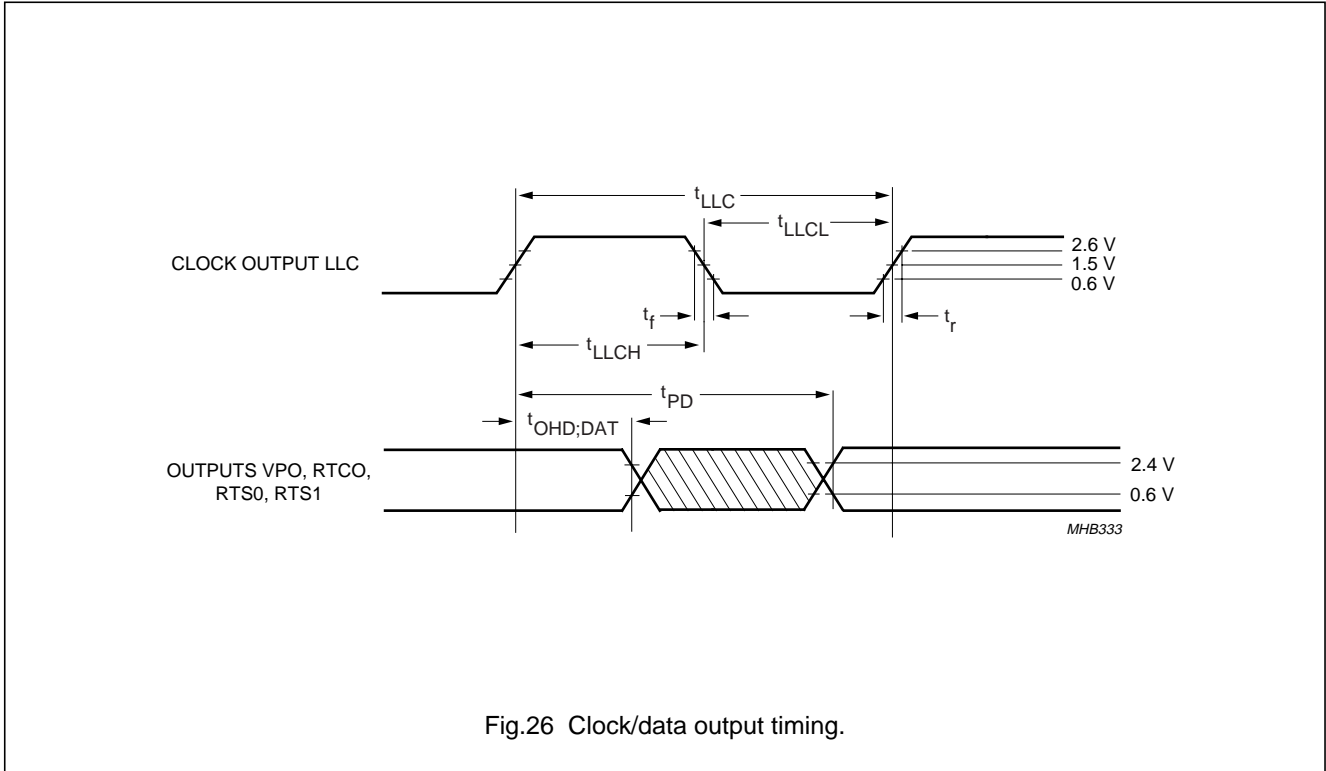

Fig.26 Clock/data output timing.
2. The effects of rise and fall times are included in the calculation of $t_{OHD;DAT}$, t_{PD} and t_{PDZ} . Timings and levels refer to drawings and conditions illustrated in Fig.26.